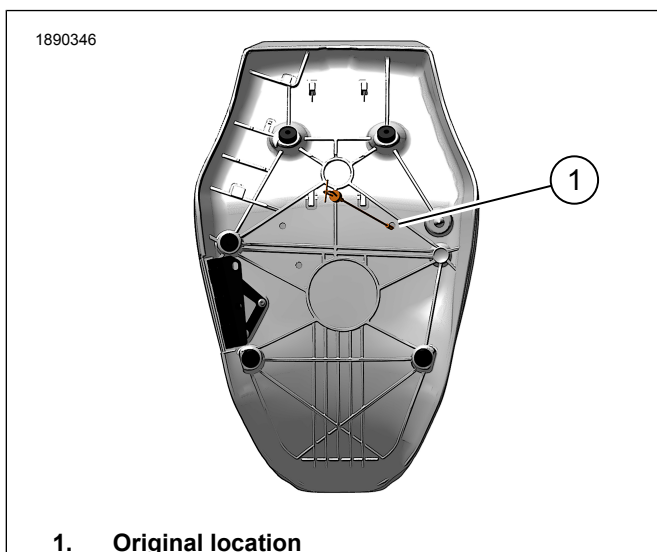

Figure 2. Original Seat Support Cable Location
2. See Figure 2. Remove support cable from original location (1).